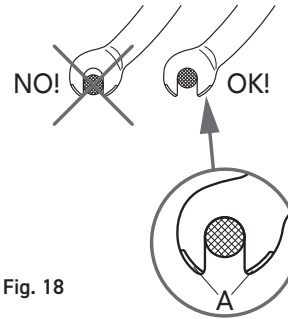

Fig. 18
- Position the wheel in the drop-outs of the frame and ensure that they are inserted all the way (Fig. 18).
Do not modify or tamper in any way with the retention flange (A - Fig. 18) (if your fork has one). The retention flange was designed to prevent the wheel from detaching in the event that the nuts should loosen.